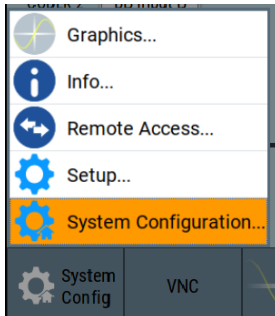

Fig. 7-1 Access to System Configuration
- a) Goto **System Configuration**, see Fig. 7-1